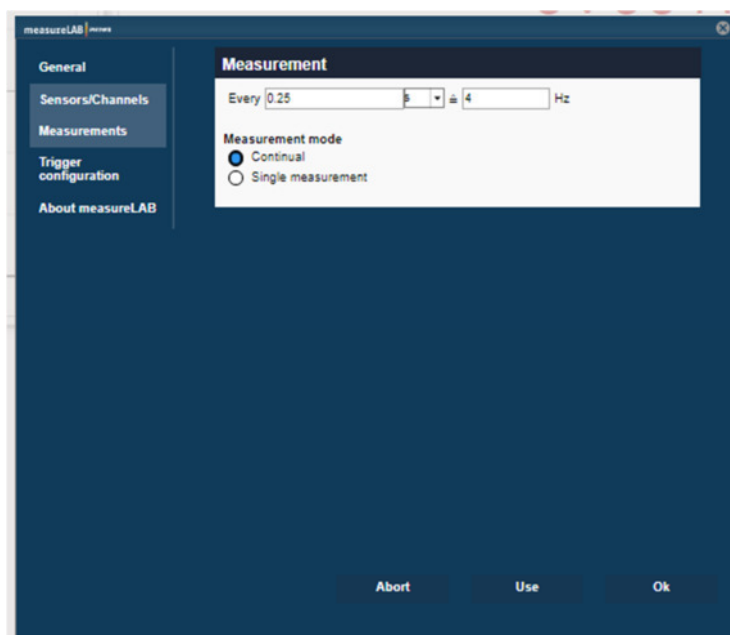
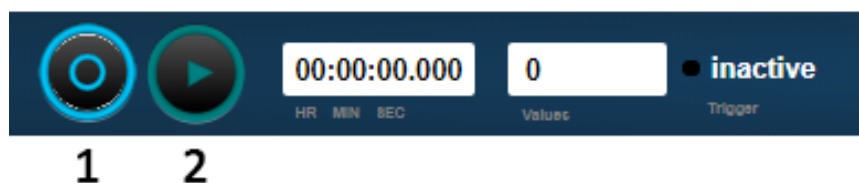

Figure 6: measureLAB Settings - Measurements
Figure 10: Single measurements
Under measurements, you can set the sampling rate of your experiment and measurement mode - continual or single measurements (Figure 6).
Depending on the individual experiment, you might need to record your measurement continually or as single values. In settings (c.f. chapter 1.4, Figure 6), you can select the measurement mode. By choosing single measurement, a second button will appear next to the record button. To start a series of single measurements (Figure 10), click on the record button (1). An individual measurement value is recorded by clicking on the single measurement button (2).